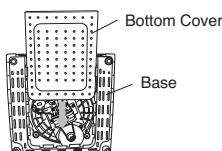

Figure 2
2. Insert the Bottom Cover to the Base. (Figure 2)